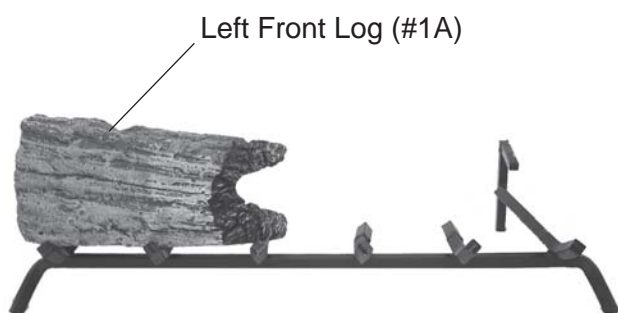

Figure 112 - Placing Left Front Log #1A on Grate
2. Place Left Front Log #1A on front left of grate. *See Figure 112.*